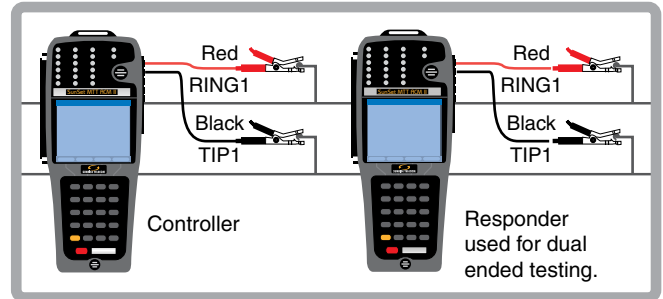

Figure 69 Dual and Single Ended Testing
1. Connect the test set(s) to the pair to be tested, as shown in Figure 69.